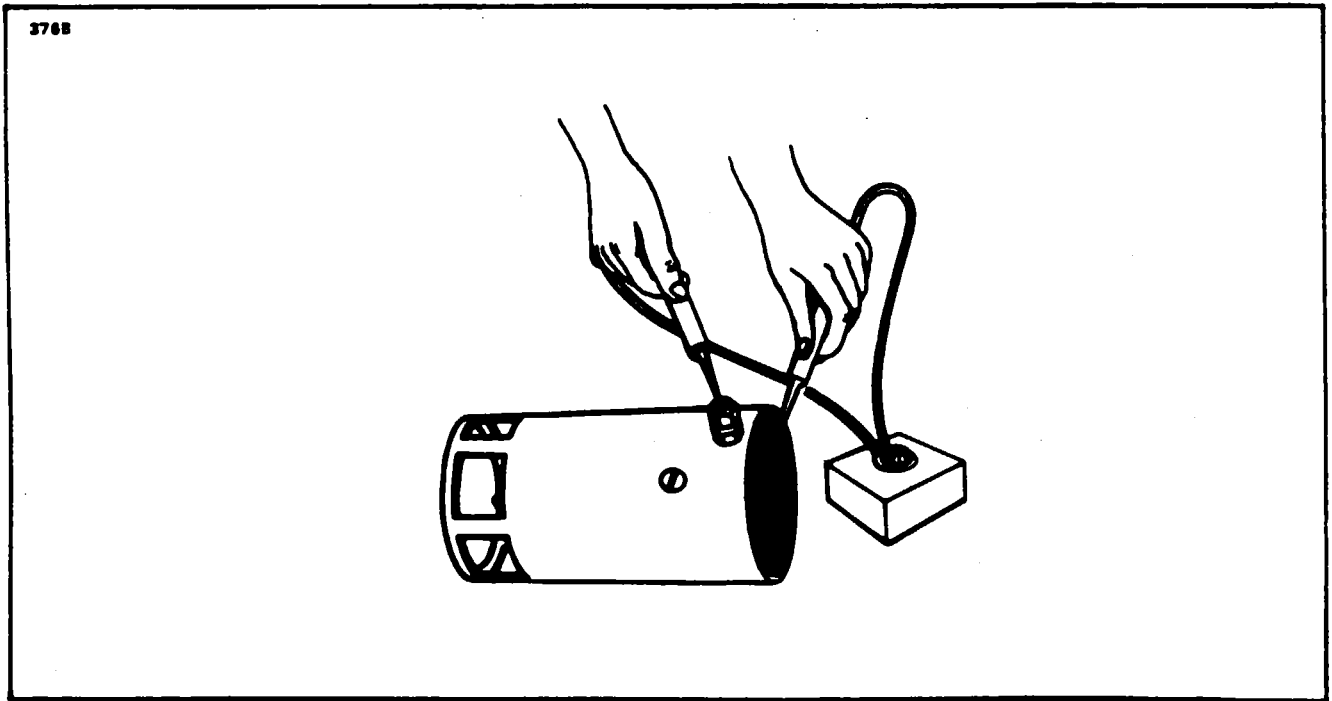

Figure 80-4. Testing Motor Fields for Grounds
1. Check the field coils for grounds (refer to Figure 80-4) by placing one test probe on the frame and the other on the starter terminal. Be sure the brushes are not accidentally touching the frame. If the lamp lights, the fields are grounded. Repair or replace.